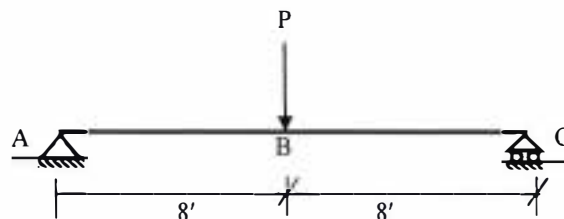

Figure 1
1. (a) Define limit state. List the classification of limit states with necessary examples. (5)
- (b) Draw steel shapes used as 'steel tension members'. (5)
- (c) Distinguish between compact, non-compact and slender steel sections. Which of these sections are not recommended in steel structure design and why? (6)
- (d) What is lateral torsional buckling? How does lateral torsional buckling differ from bending? Discuss with neat sketches. (6)
- (e) What are the advantages of initially tightening a high-strength bolt? Discuss with a neat sketch. (4)
- (f) With rough sketches, differentiate between butt joint and lap joint. What are the advantages of lap joint over butt joint? (5)
- (g) Briefly discuss the following defects of welded connections: (9)
2. Determine the design moment capacity of the W 14×68 section used as a flexural member of grade 50 steel (15) for the beam loaded as shown in *Figure 1*. The beam has no lateral bracings in between support points A and C. Use **AISC-LRFD** approach. See **Annexure-1**.